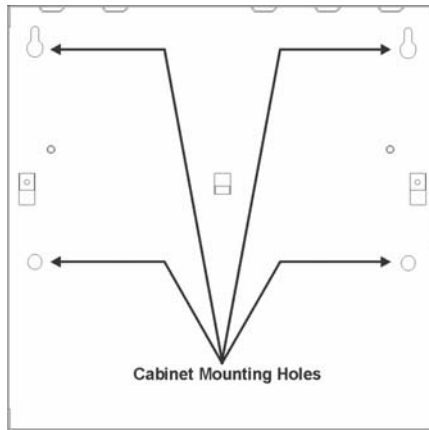

Figure 2 Cabinet Mounting Holes
4. Mount the cabinet, and secure with the appropriate screws and anchors, refer to Figure 2.